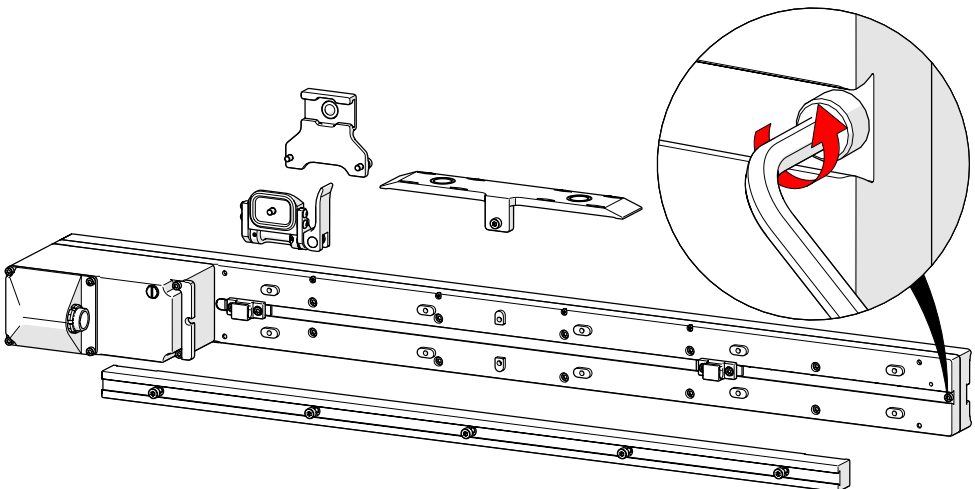

Fig. 147 - Remove screw
6. Using a 2.5 mm hex tool, remove the socket head cap screw located at the end of the raster arm in the cable clip groove (Fig. 147).